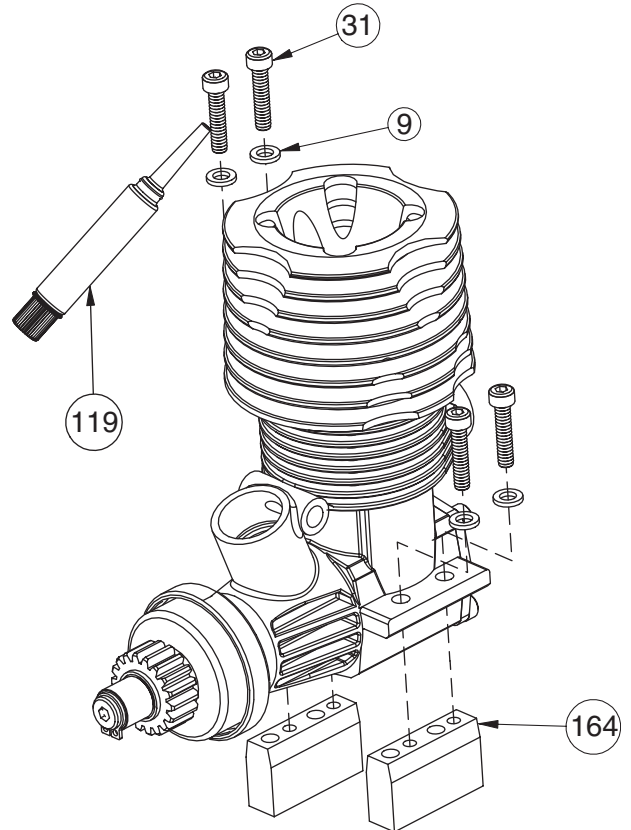

Figure H-6
2. Attach the engine to the Engine Mounts (164) by threading the four Screws into the four holes shown.
*\*NOTE: The two Engine Mounts should be positioned with the narrow end up as shown in Figure H-6.*
**! IMPORTANT NOTE:** Make sure that the Engine Mounts are installed correctly as indicated in Figure H-6. The larger holes should be positioned toward the front of the engine, and the four Screws should be installed into the smaller holes.